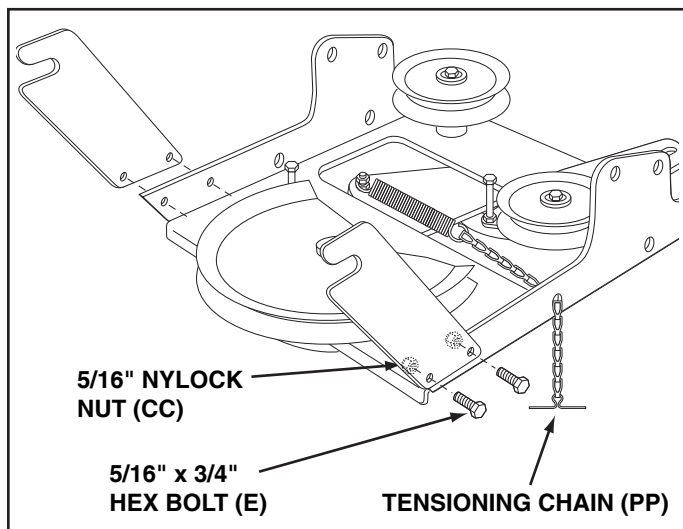

FIGURE 8
STEP 8: (SEE FIGURE 8)
- Attach the two suspension arms to the rear of the clutch/idler assembly using two 5/16" x 3/4" hex bolts (E) and 5/16" nylock nuts (CC) for each arm. Place the arms on the outside of the frame with the notches to the rear.